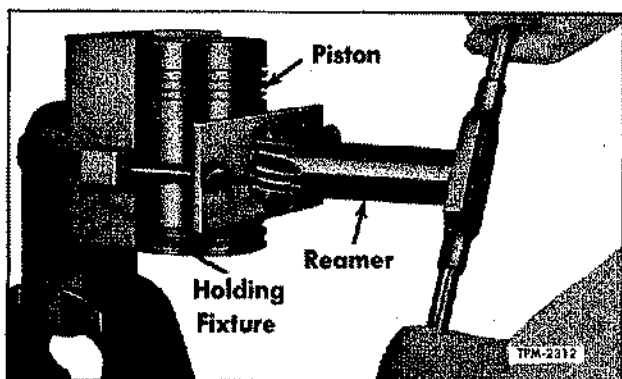

Figure 45—Reaming Piston Pin Bushings in Piston
Since the inside diameter of replacement bushings is smaller than the final finished diameter, the bushings must be line reamed after being pressed into place. Suitable fixture is available for this operation as shown in figure 45.
1. Place holding fixture in vise (fig. 45).